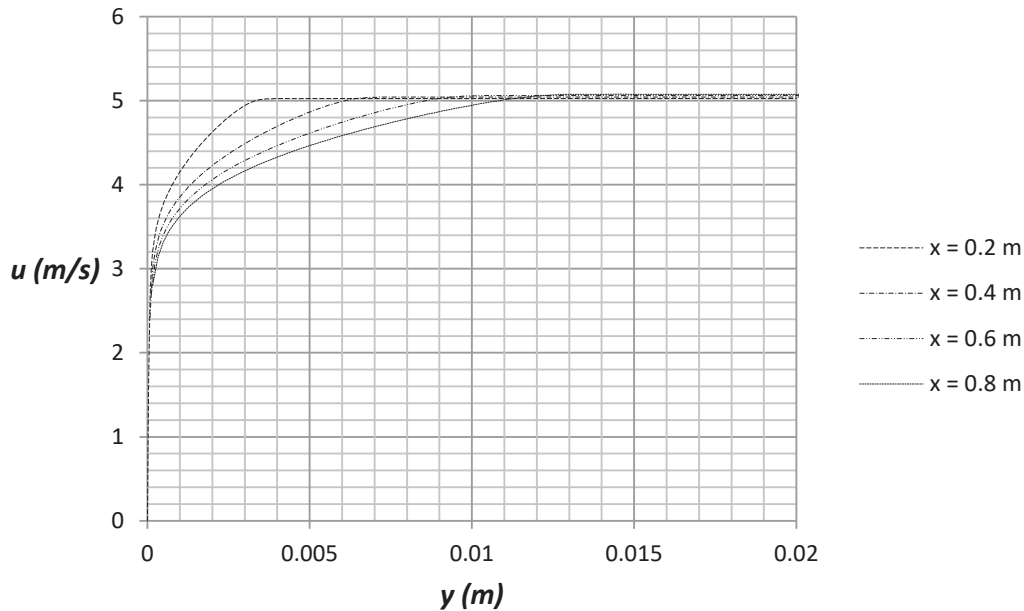

Figure 2.30a) Comparison of turbulent boundary layers at  $Re_x = 10^6 - 4.04 \cdot 10^6$
30. Place the file “**graph 2.30a**” on the desktop. Repeat step 24 and choose the sketch  $x = 0.2, 0.4, 0.6, 0.8$  m and check the box for **Velocity (X)**. Rename the xy-plot to **Turbulent Velocity Boundary Layer**. An Excel file will open with a graph of the streamwise velocity component versus the wall normal coordinate, see figure 2.30a). We see that the boundary layer thickness is much higher than the corresponding laminar flow case. This is related to higher Reynolds number at the same streamwise positions as in the laminar case. The higher Reynolds numbers are due to the selection of water as the fluid instead of air that has a much higher value of kinematic viscosity than water.
As an example, the turbulent boundary layer thickness from figure 2.30a) is 3.16 mm at  $x = 0.2$  m which can be compared with a value of 4.45 mm from equation (2.4), see table 2.2.
- 2.6 Determine the displacement thickness, momentum thickness and shape factor for the turbulent boundary layers in figure 2.30a) and determine the percent differences as compared with empirical data.